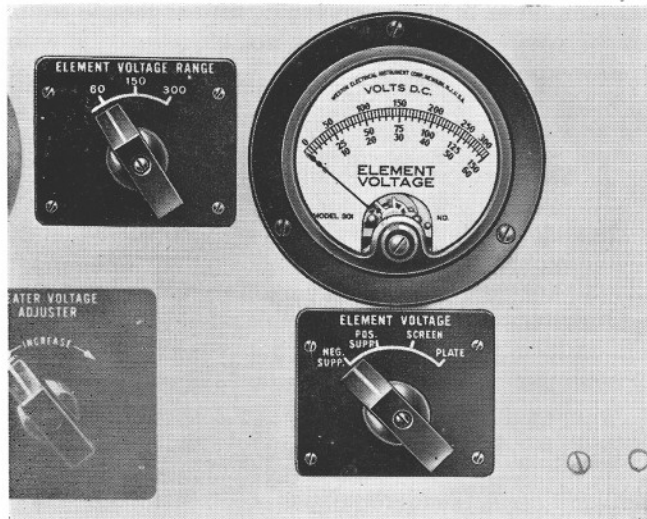

FIG. 3
**ELEMENT VOLTMETER:** Electrode potentials are measured on the two range *Element Voltage* instrument mounted below the *Element Current* meter. Plate, screen, positive suppressor grid, or negative suppressor grid potentials can be selected by using the rotary switch below the meter (Refer to Fig. 3).